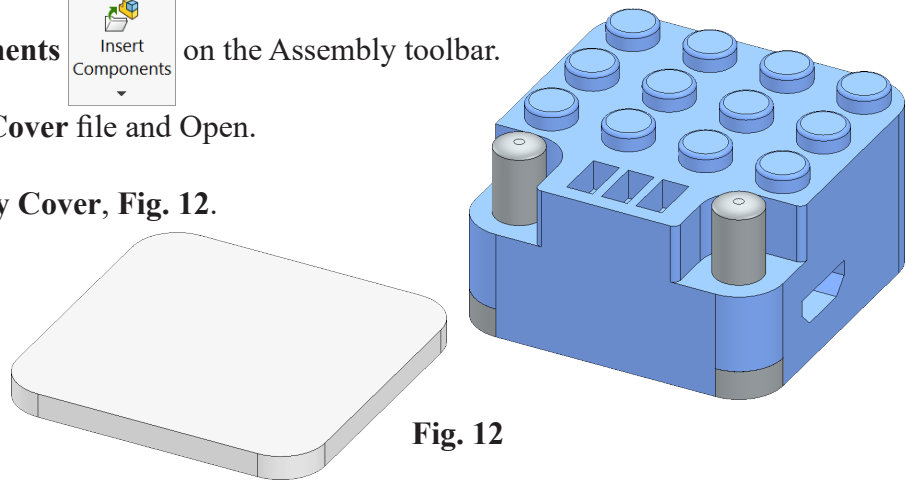

Fig. 12
Step 3. Click to place **Battery Cover**, **Fig. 12**.